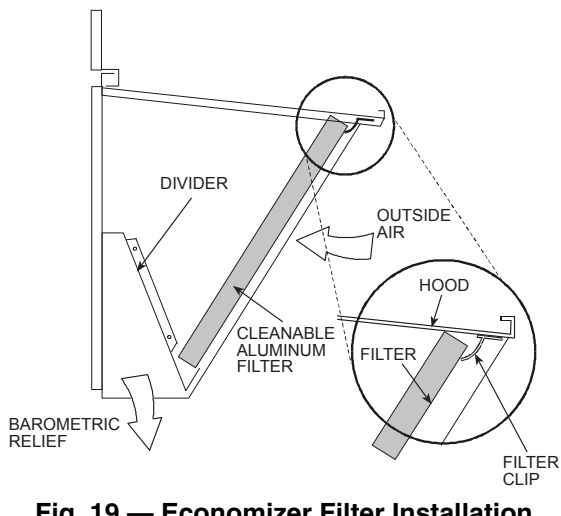

Fig. 19 — Economizer Filter Installation
5. Open the filter clips which are located underneath the hood top. Insert the aluminum filter into the bottom filter rack (hood divider). Push the filter into position past the open filter clips. Close the filter clips to lock the filter into place. See Fig. 19.